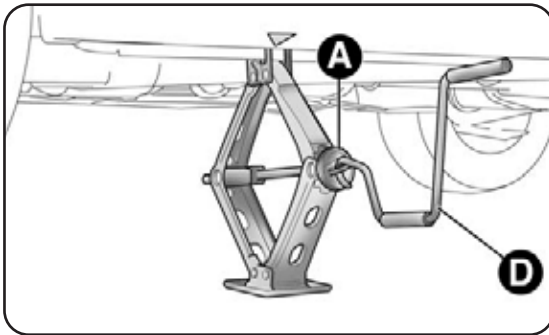
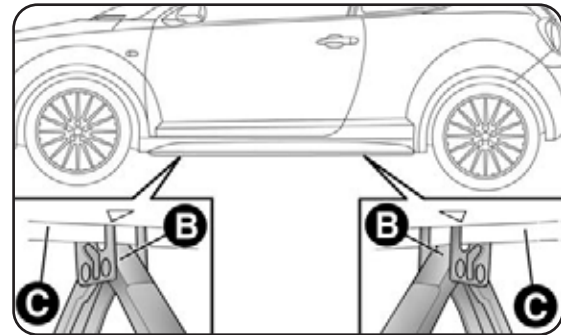

fig. 7
fig. 8
- operate device A-fig. 7 to extend the jack, until the upper part B-fig. 8 inserts correctly into device C;
- fit the handle D-fig. 7 into the housing on the device A, operate the jack and lift the car until the wheel is lifted some centimetres off the ground, then remove the damaged wheel;
- operate jack handle D-fig. 7 to lower the vehicle. Remove the jack;